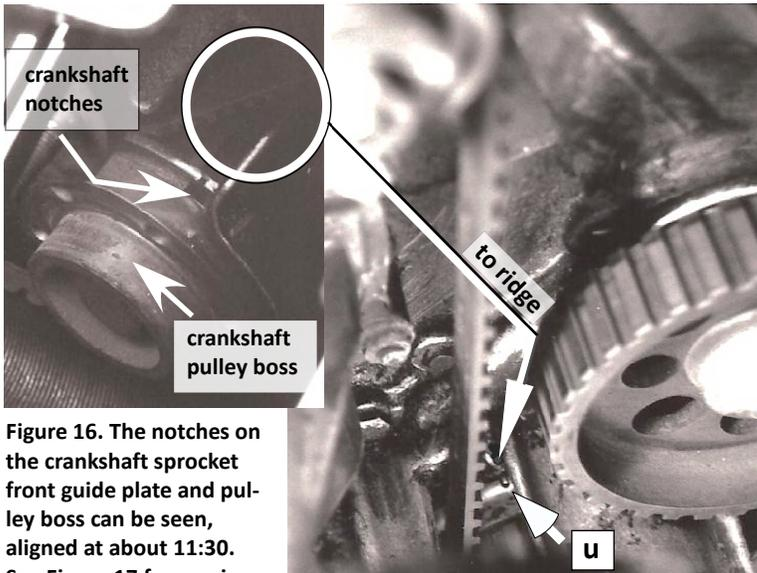

Figure 16. The notches on the crankshaft sprocket front guide plate and pulley boss can be seen, aligned at about 11:30. See Figure 17 for precise alignment.
10. As shown in Figure 16, the notch (deep squarish cut) on the crankshaft pulley boss and the notches (small u shape) on the crankshaft sprocket front and rear guide plates turn together and are at about the 11:30 position, aligned roughly with the lip (that straight edge intersecting the circle of Figure 16) of the timing belt guard. The notches are aligned precisely to the back 4-mm-long ridge of the crank seal housing on front of engine block (Figure 17).
Figure 17. Blow-up of circle of Figure 16. At back, the small u-shaped notch (u-arrow in photo) on the crankshaft sprocket rear guide plate must align to the 4-mm-long vertical ridge (long arrow) on the crank seal housing on front of engine block. Use a solvent-soaked rag to clean this area for better viewing.
**13.** Put some solvent on a rag and clean area back of the crankshaft rear sprocket guide plate (circle, **Figure 16**) so that you can see the 4-mm-long ridge (**Figure 17**). This is the alignment mark **C** of **Figure 9**! The u-shaped notch of the crankshaft rear sprocket guide plate aligns to this ridge.